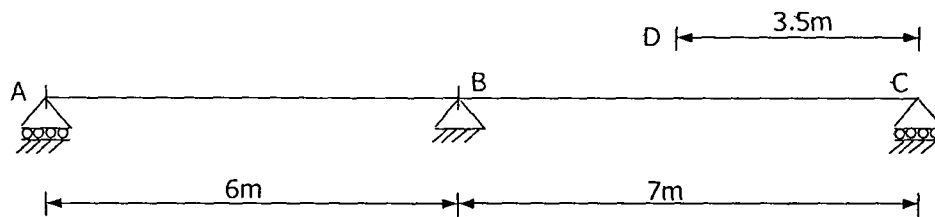

Figure 13.(a)
13. a) Using Muller Breslau's Principle Determine the influence line for the shear force at D, the middle point of span BC, of a continuous beam ABC shown in Fig. 13.a. Compute the ordinates at every quarter point of each span.